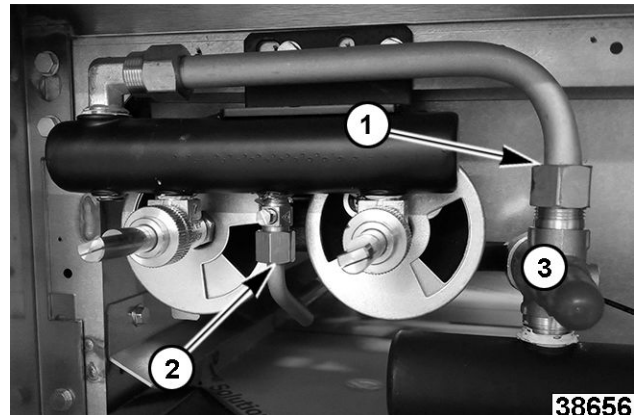

Fig. 78
4. Remove gas tube (1, Fig. 78) to sub-manifold assembly.
5. Remove pilot tubing (2, Fig. 78).
7. Unscrew pilot safety (3, Fig. 78) to remove.